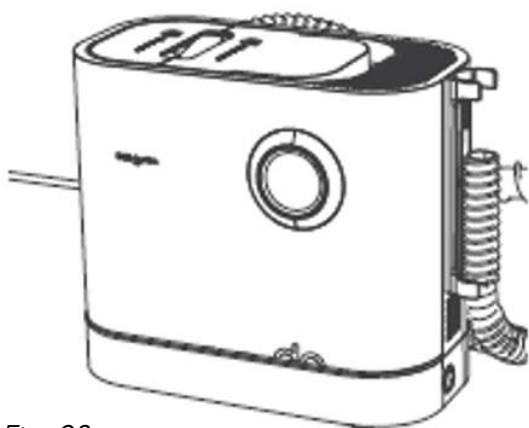

Fig. 28
5. After the descaling is completed, clean the clean water tank and then install the brush head and the handle of the brush well in position, after this the appliance can be operated normally again (see Fig.28).